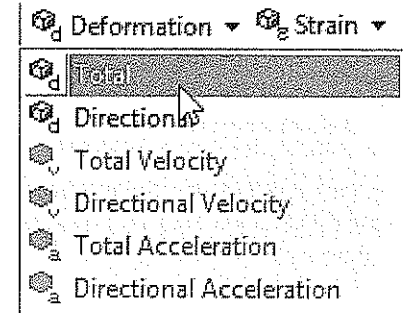

Figure 9-18 Choosing the Total tool from the Deformation drop-down
2. Choose the **Total** tool from the **Deformation** drop-down in the **Solution** contextual toolbar, as shown in Figure 9-18; **Total Deformation** is attached under the **Solution** node. Also, the **Details of "Total Deformation"** window is displayed.